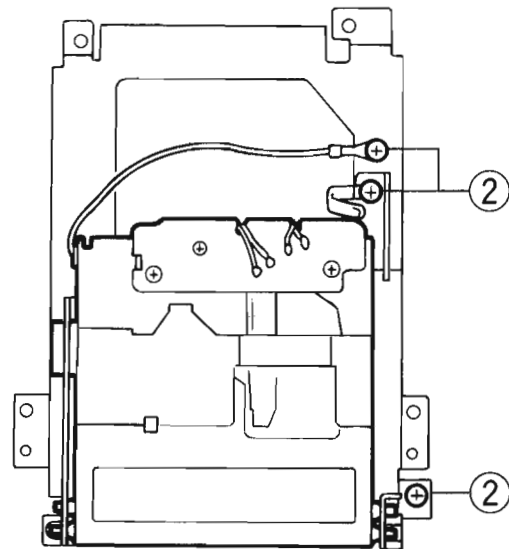

Fig.2
2) Removing the MD Mechanism (see Fig.2)